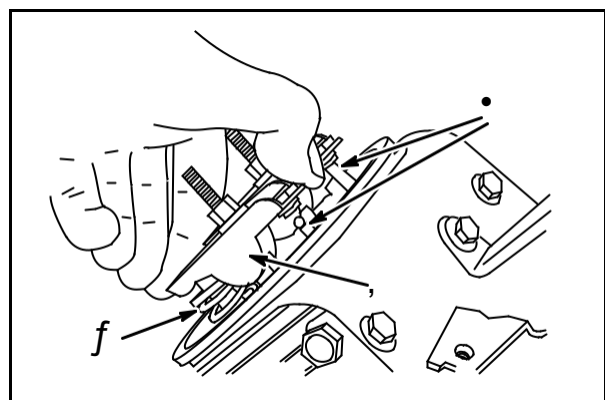

Fig. 23
Compress valve spring (3) with rocker arm (2) and insert push rod (1) into rocker arm socket, **Fig. 23**.